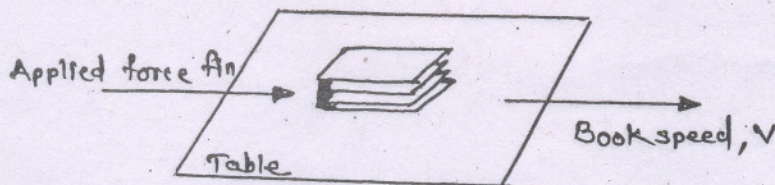

Fig. 1.
- Explain in short control modes of fluid power circuit. (4)
- Draw a ladder diagram of basic NOT & AND logics. (4)
- Distinguish between static & dynamic models. (4)
- Explain Key element of mechatronics. (4)
- Explain in details Mechatronics design process diagram, operation & importance. (12)
- Explain in brief over framing how it will avoid. (6)
- Explain installation procedure of I/o cards & Vis - sim Software steps. (6)
- Explain importance in mechatronics artificial intelligence in mechatronics. (8)
- Explain & Draw the permanent magnet stepper motor principle diagram & derive the motor equation with block diagram model of 4 phase PM Stepper motor. (12)
- Explain microsensors fabrication techniques with diagram. (8)
- To illustrate how the three types of friction are used , we consider an example in which a book is slid across a desk at a specific velocity  $V$  . the book consists of a simple mass and encounters friction with the table as it slides. The situations illustrated in fig 1 draw